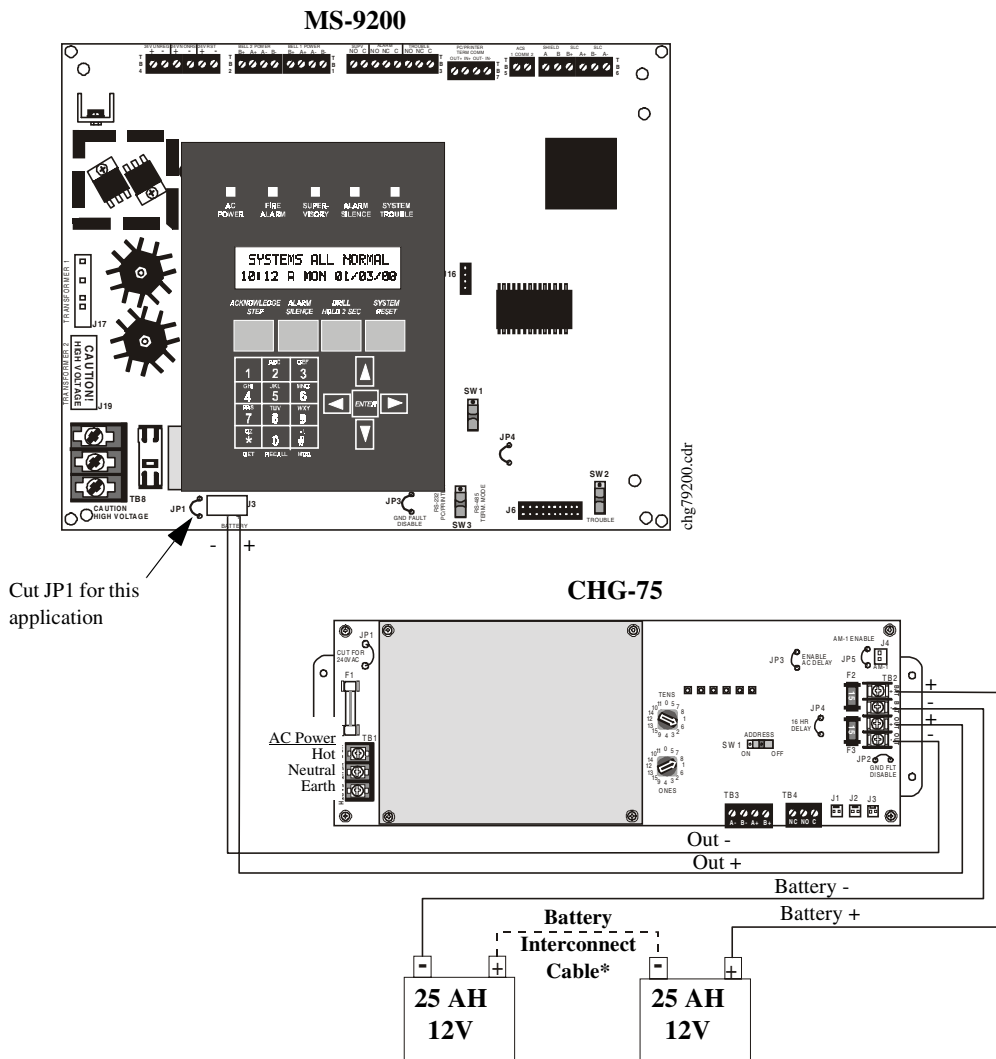

Figure 2.13 CHG-75 Wiring to MS-9200
4. Connect the stripped wire ends to the CHG-75 Output Circuit TB2, Terminal 3 (Out +) and Terminal 4 (Out -) as illustrated in Figure 2.13. *Be certain to observe proper polarity.*
3. Connect the CHG-75 Output Circuit TB2, Terminal 3 (Out +) to MS-9600 battery connector TB2 (+) terminal and Terminal 4 (Out -) to MS-9600 battery connector TB2 (-) terminal as illustrated in Figure 2.13. *Be certain to observe proper polarity.*